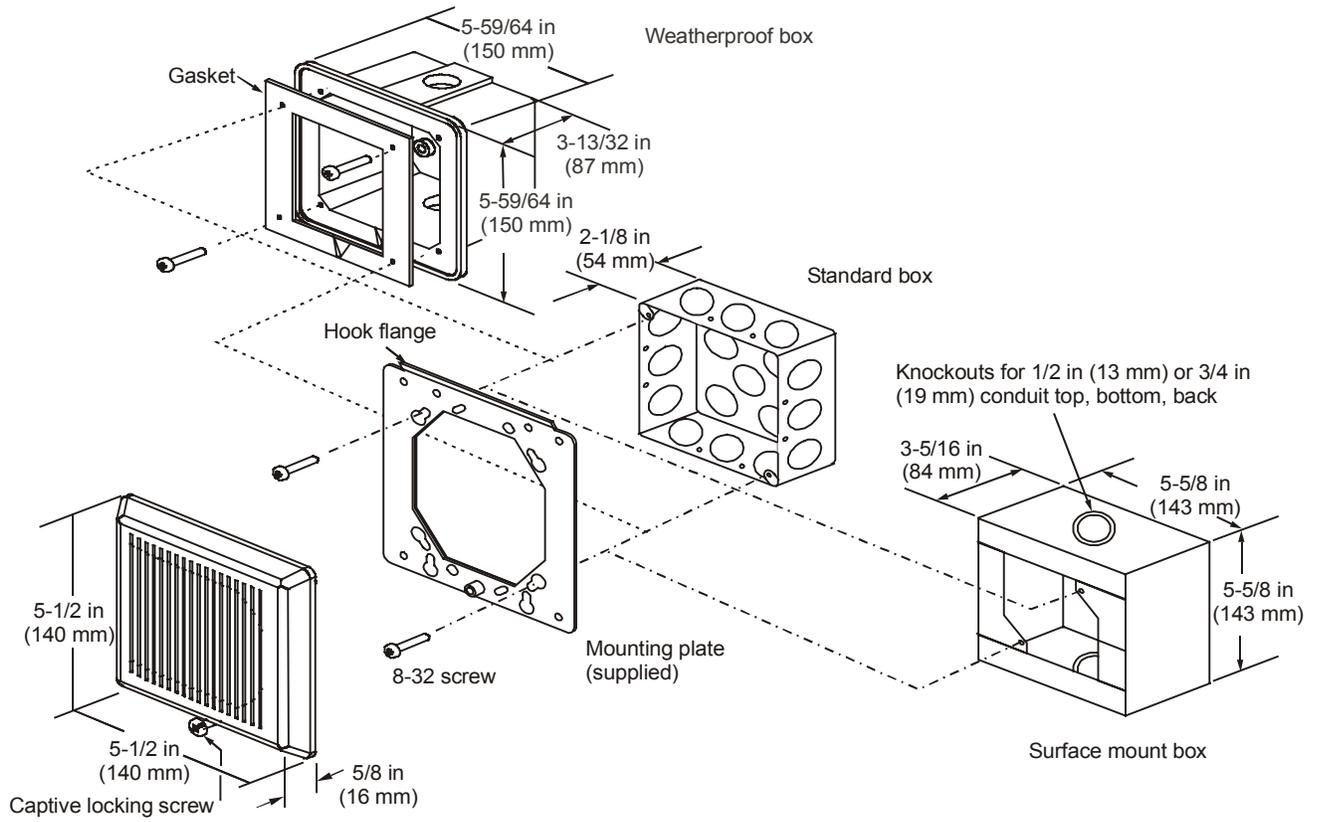

Figure 3: Mounting details
Figure 3 shows mounting details for a standard 4 in square box. An extension ring can be used for additional wiring space.
Figure 3 also shows a weatherproof and surface mount boxes. See Table 1 for model numbers of compatible boxes.
5. Position the mounting plate on the electrical box with the hook flange facing outward as shown in Figure 3. Fasten the plate using two pan-head slotted screws (supplied).